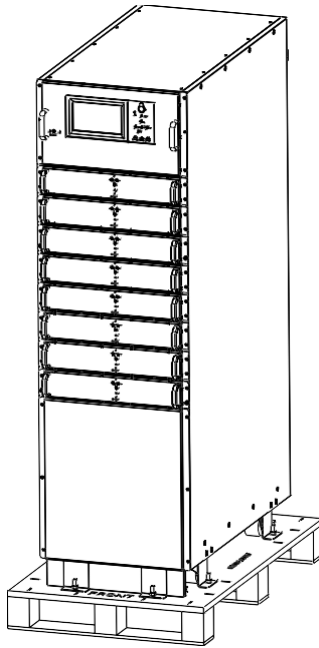

Figure 3-3 Remove the protective foam
- 3) Open the top plate of the steel-edged wooden case with slotted awl and pier, followed by sideboards (see Figure 3-3;